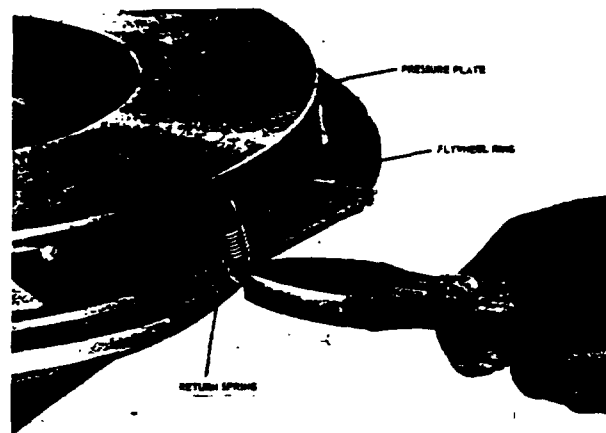

Figure 4-37. Removing Return Spring
5. Set clutch assembly (without driven discs and intermediate plate) upside down on a flat table or workbench. Unhook four return springs from flywheel ring and lift pressure plate off. See Figure 4-37.